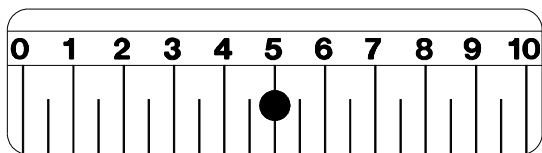
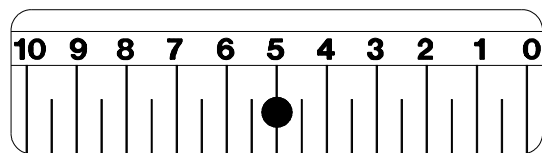

Figure 39
Figure 40
Divide by 2 and adjust both tie rods equally until the laser beam falls on 5 on each Thrust Angle Scale. (See Fig. 39 and Fig. 40)
- 3) Note the reading on each of the Thrust Angle Scales. Adjust the toe of each rear wheel until the laser beam image on the corresponding Thrust Angle Scale is in the middle at the number 5. (See Fig. 39 and Fig. 40)